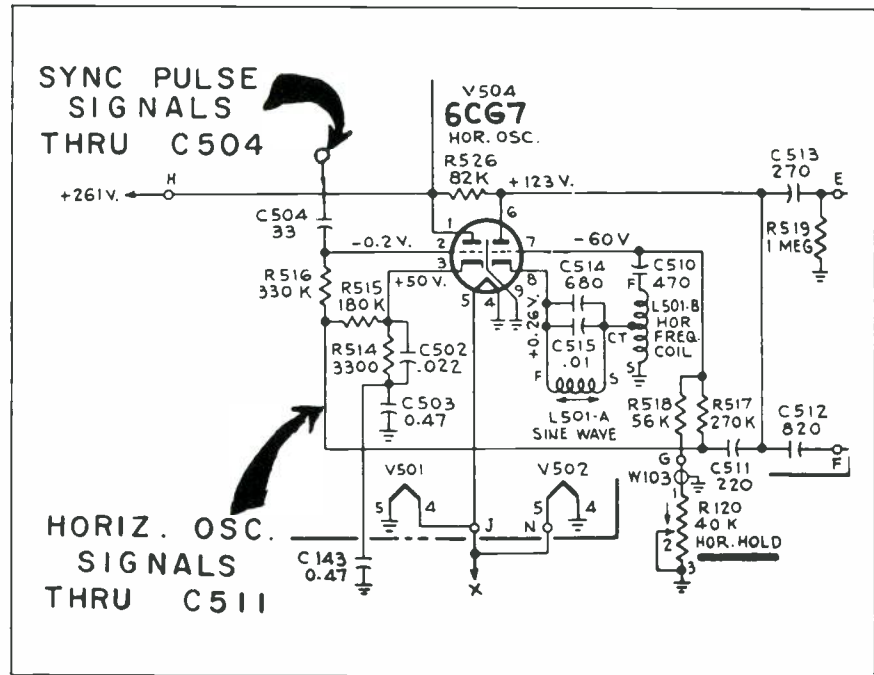

Figure 3: partial schematic—synchroguide type of horizontal oscillator and control system.
**Synchroguide System**—In the synchroguide type of horizontal control system, a blocking oscillator and control circuit function as an integral unit. The oscillator output is fed to the deflection circuitry and also to the grid of its associated control tube (see Figure 3). The oscillator control action is accomplished by comparing the frequency and phase of the incoming sync pulses with the frequency and phase of the oscillator output waveform at the grid of the control tube. Actually, the combination of the positive peaks of the sawtooth pulses and positive peaks of the sync pulses govern the conduction time of the control tube. The amount of conduction existing in the control tube determines the amount of positive voltage formed on its cathode. This cathode voltage is the dc control voltage used to govern the frequency of the oscillator.